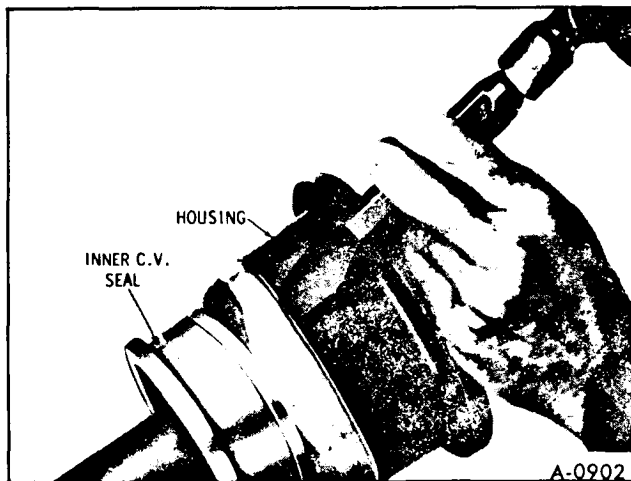

Figure 21—Removing Inner C.V. Joint Seal
1. With axle assembly on a bench, pry up staked areas on seal retainer and drive seal off housing with hammer and chisel. (Figure 21)